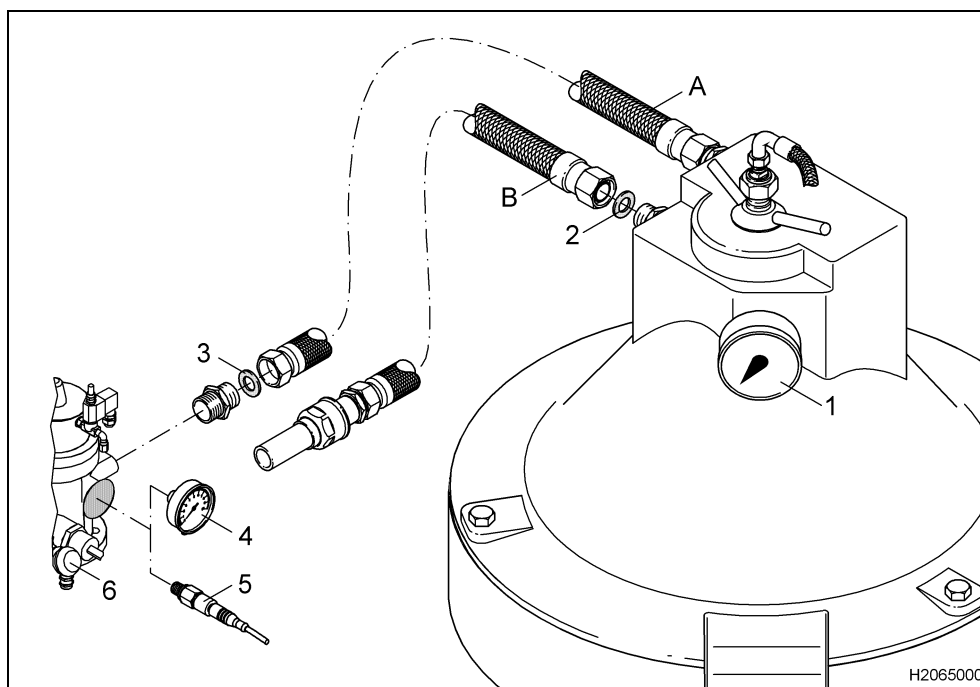

Fig. 49
- When commissioning, mark the indicated scale range on the flow indicator (4) (Fig. 49) with the supplied sticker.
- Read off the scale value on flow indicator (4) (Fig. 49).
The pressure in the product discharge line is indicated on pressure gauge (1) (Fig. 49).